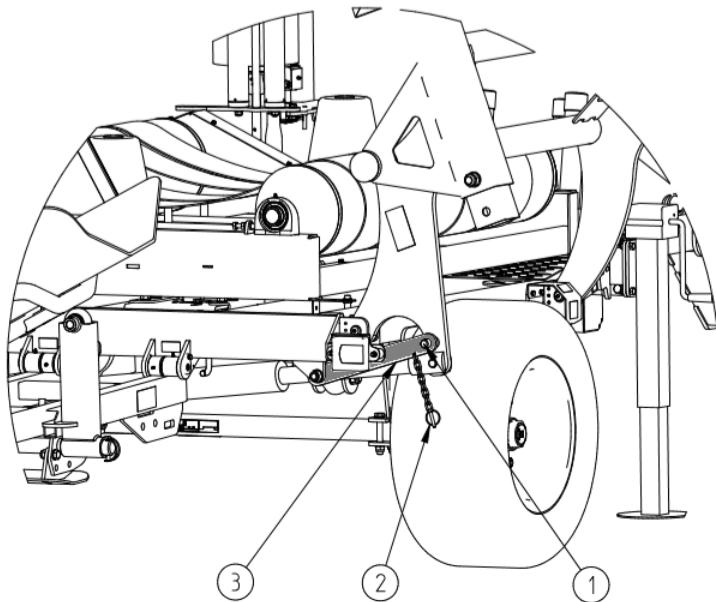
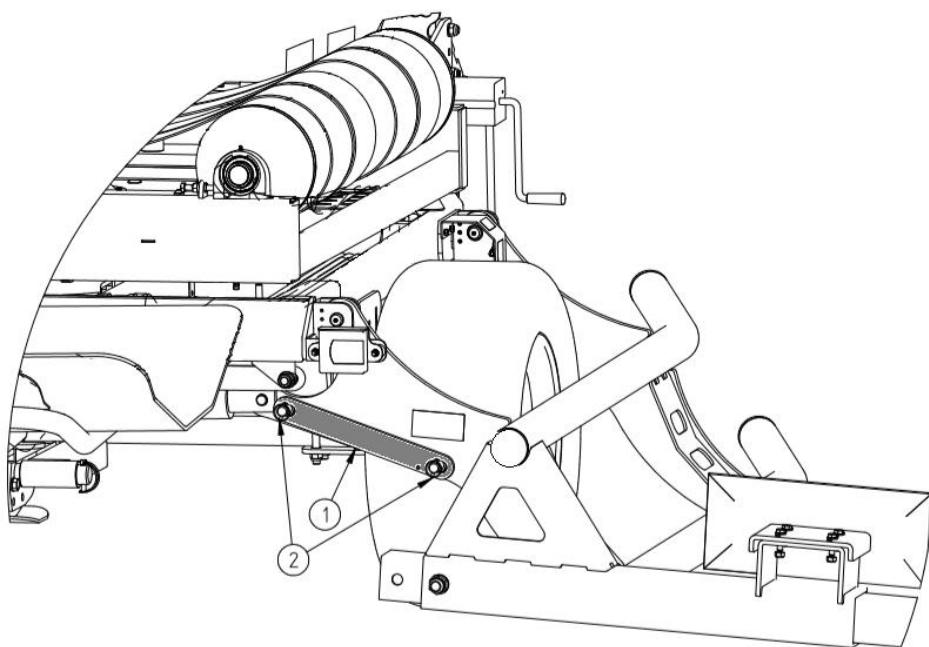

Figure 20 Mechanical grab lock
Figure 21 Grab securing in the working position
The grab arm is lifted and locked mechanically in the transport position, see Figure 20. Before starting work in the field, remove the locking flat bar (3) from the bale grab (Figure 20) by removing the locking pin (2) from the pin (1) to remove the flat bar and put it securely in the working position (Figure 21).
- When driving to the work site, secure the grab arm with a flat bar and a locking pin, see Figure 20